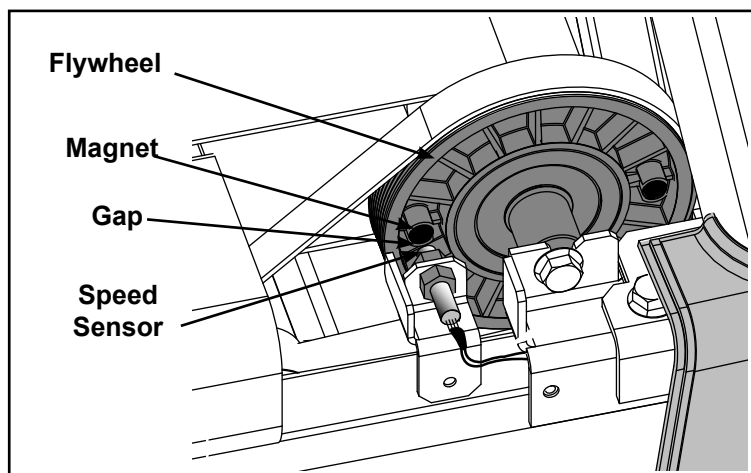

Figure 4
- A. Using two 1/2" open end wrenches, loosen the nuts that attach the speed sensor to the frame bracket. See Figure 4.
- B. Adjust the gap between the speed sensor and the magnet on the front roller to 1/4" (.635 cm) and tighten the two nuts. See Figure 4.